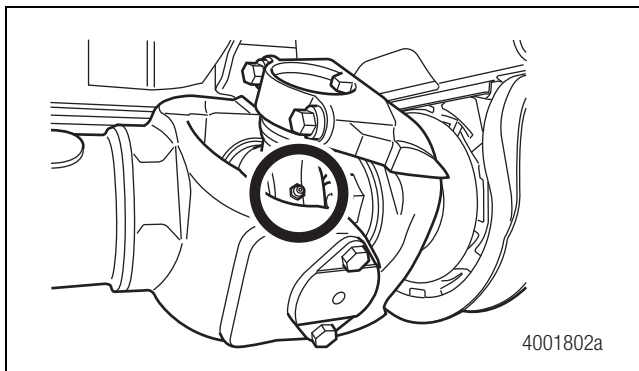

Figure 3.6
1. Check that all grease fittings are installed. Replace missing or damaged fittings. Tighten them to 6 lb-ft (8 N•m). Figure 3.6.